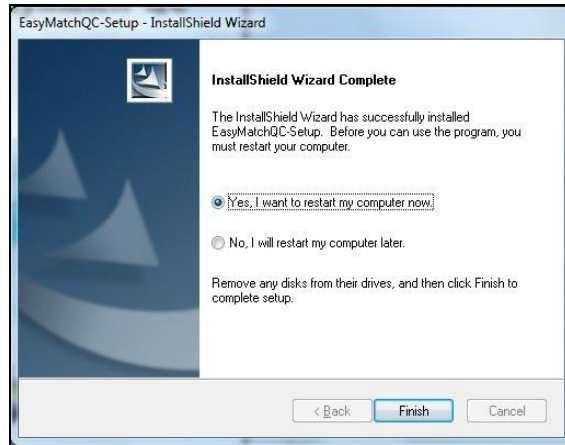

Figure 5. Completed Install
- a. From the **Choose an Option** page (Figure 5), select **Key ID**.
- b. From the **Choose an Option** page (Figure 5), select **Key File (.skl)**.